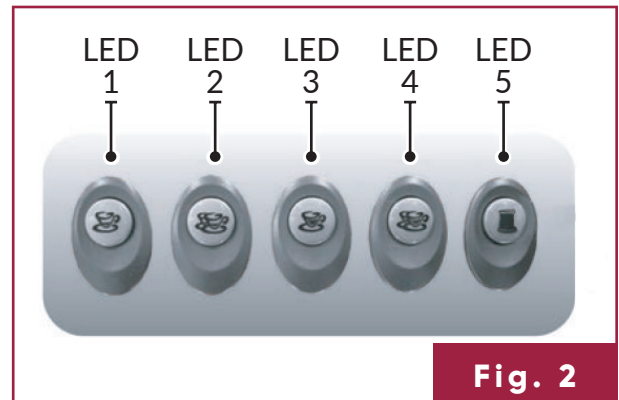

Fig. 2
2. The output LEDs (**Fig. 2**) should be lit with the 5th button flashing, indicating the machine is in setup mode.